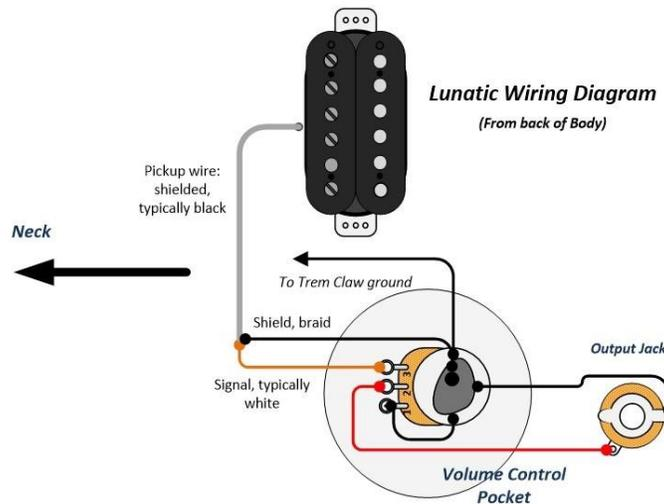

Figure 4.6.2-1 Lunatic Wiring Diagram
Several suppliers are used, possibly resulting in different wire colors. Identification of colors and cross referencing their function to the colors in the instructions (Figure 4.6.2-1) will assist in the assembly.
3. Solder one end of the 2" black wire to the case of the Volume control and the other end to pin 1 of the Volume control (reference Fig. 4.6.2-1);